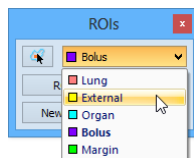

Figure 240 – Selecting the current ROI in TomoCon
- Select the ROI from the **ROIs** drop-down list in the **ROIs** tool in the tools panel (see Figure 240).